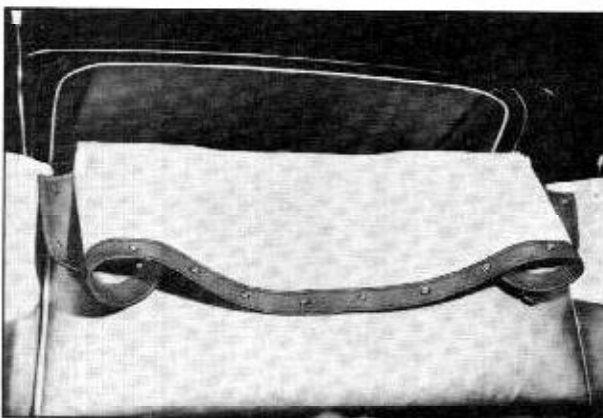

Fig. 17-101 Folding Top Boot
1. Stop the car. If top boot has been stored in its retainer behind rear seat, turn boot over seat back and fold ends. (Fig. 17-101) It is not necessary to lower rear window or rear quarter windows before lowering top.